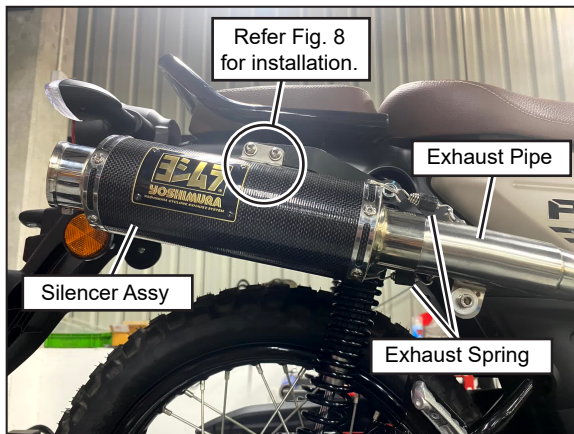

FIG. 7
7) Install Silencer Assy to Exhaust Pipe and fix them with Exhaust Spring (See Fig. 7).
Tighten bolts by hand only at this stage. (See Fig. 7 & 8)